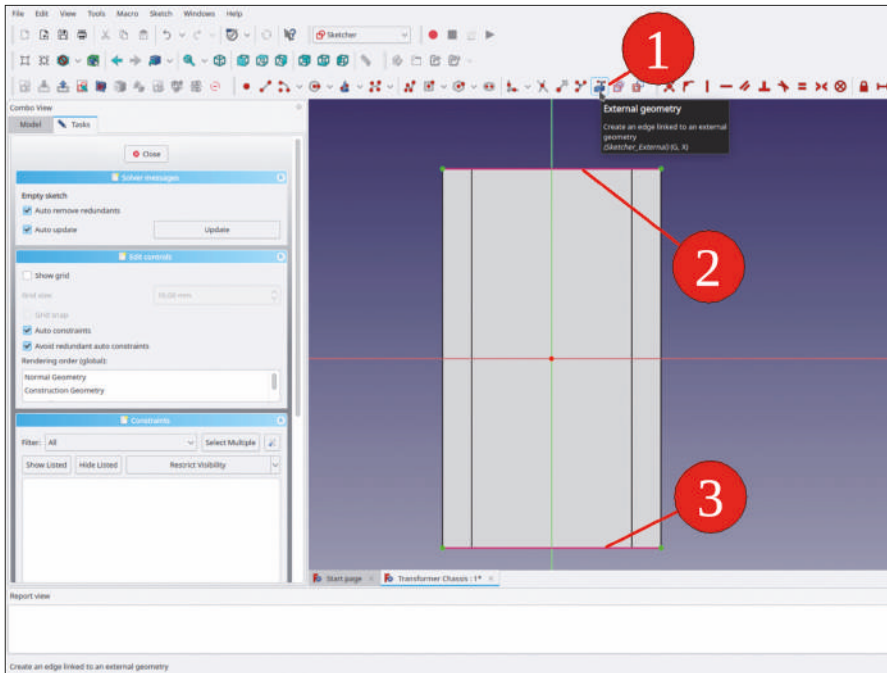

Figure 9-68
4. Click on the 'External geometry' tool button. Click on the top and bottom horizontal edges of the chassis (Figure 9-68).